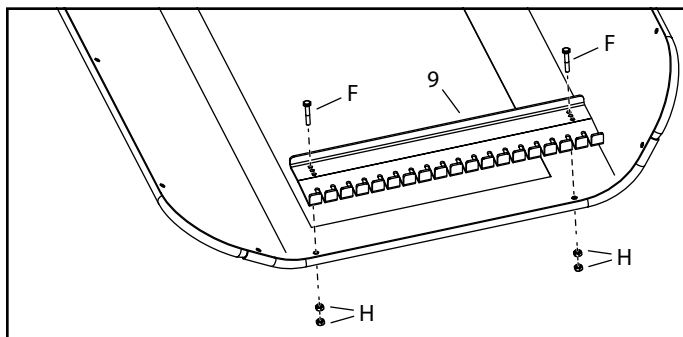

FIGURE 8
STEP 8: (SEE FIGURE 8)
- With the right pusher wall assembly lying flat, attach a leaf rake (9) to the bottom of the pusher wall assembly using two hex bolts (F), and hex nuts (H).
- Select the holes in the leaf rake (9) that works best for your tractor height.
- Tighten the hex nuts (H).
- Add a second hex nut (H) to each bolt and tighten.
- Repeat step 8 with a leaf rake (9) and the left pusher wall.